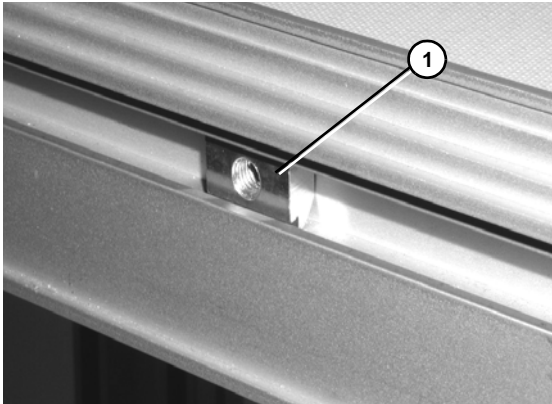

Figure 5
1. Install t-bars (Figure 5, item 1) into conveyors t-slot.